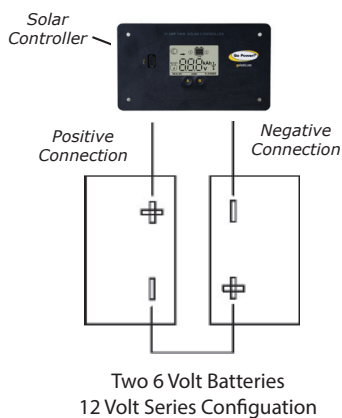

Figure 6
3. 2 x 6 Volt series battery connection (See Figure 6)